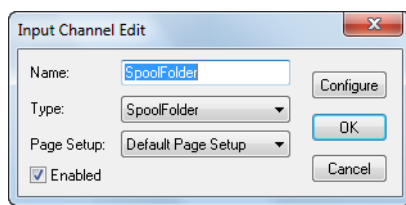

Figure 8.2 Input Channel Edit dialog box
1. Click the **New** button in the Input Controller. The RIP displays an Input Channel Edit dialog box, similar to that shown in Figure 8.2, allowing you to fill in the details for this source.